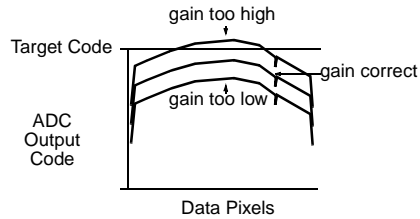

Figure 11: CCD Input Signal In Range
- Program the PGA value for each color so that the maximum white pixel is close to, but still less than the Target Code (Figure 11). The PGA gain required to meet this condition is equal to the Target Code divided by WhiteMAX. Using the PGA